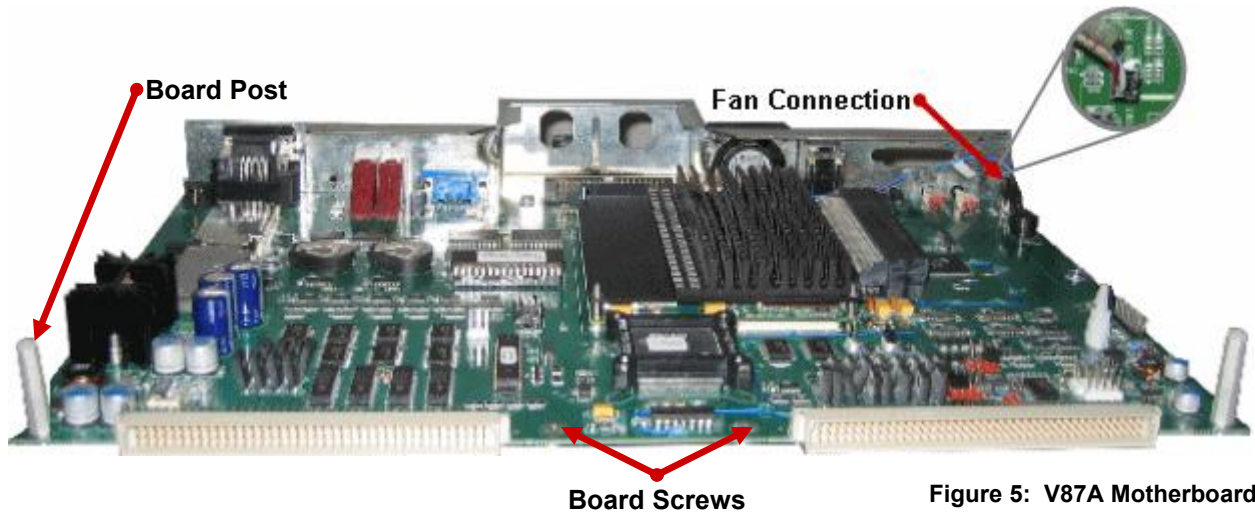

Figure 5: V87A Motherboard
STEP 2: Referring to Figure 5, use an adjustable wrench to unscrew and remove both board posts.
STEP 3: Reconnect the cooling fan. Refer to Figure 5 if necessary.